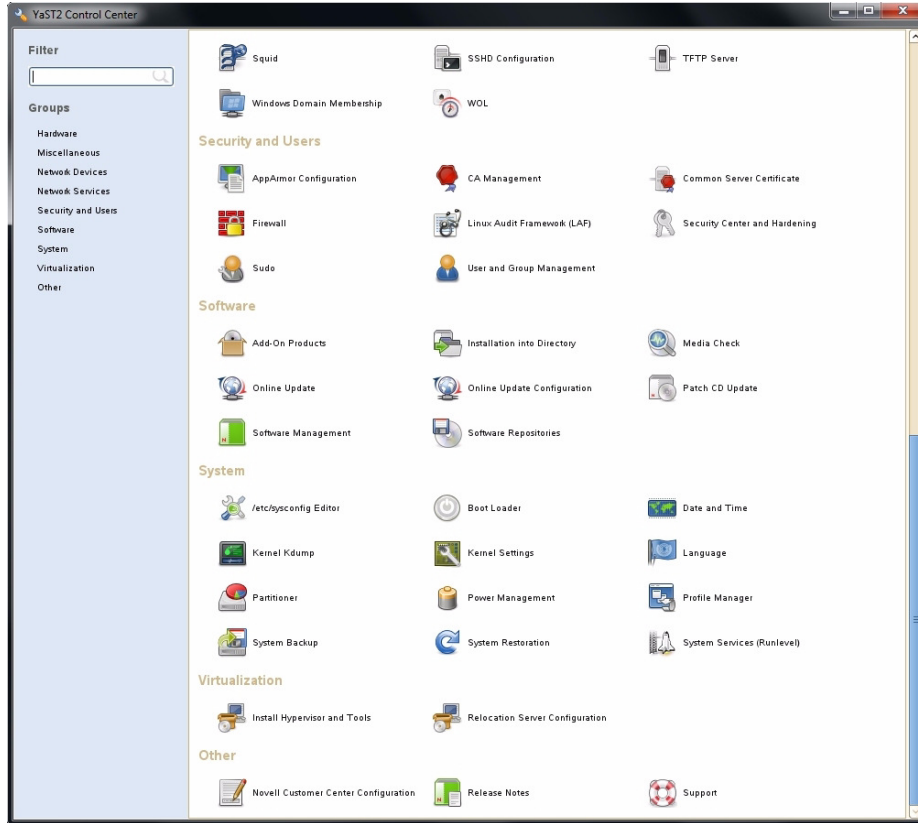

Figure 3-23 YaST2 – Server Manager GUI
1. Issue YaST2 command (i.e., # `yast2`) to launch the YaST2 Server Manager GUI (Figure 3-23).